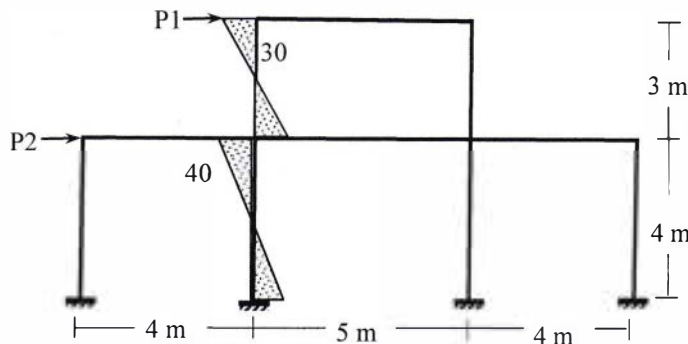

Fig.1
1. Column bending moments (kN-m) of a two-storied frame are shown in Fig.1. Use the Portal Method to calculate the corresponding (i) applied loads P1 and P2, (ii) column shear forces, (iii) beam axial forces. [10]